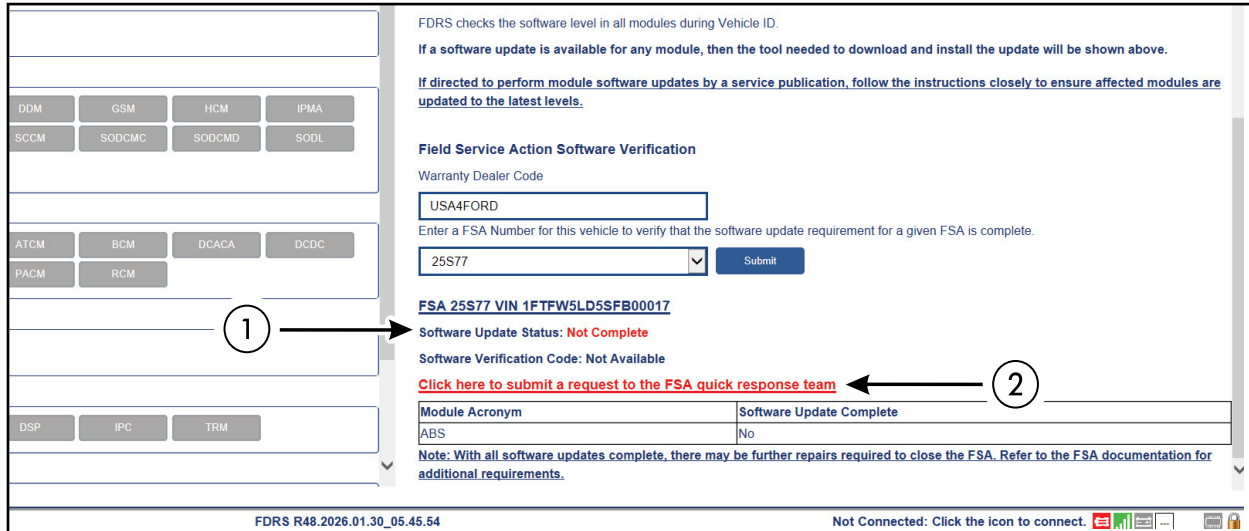

FIGURE 6
50. If the FDRS Field Service Action Software Verification Status displays "**An error occurred. Unable to retrieve FSA information**", please reattempt to generate an SVC code. The error can be caused by a connectivity or server issue where the status of the FSA cannot be verified. This is typically resolved upon reattempting to generate an SVC code. See Figure 6.